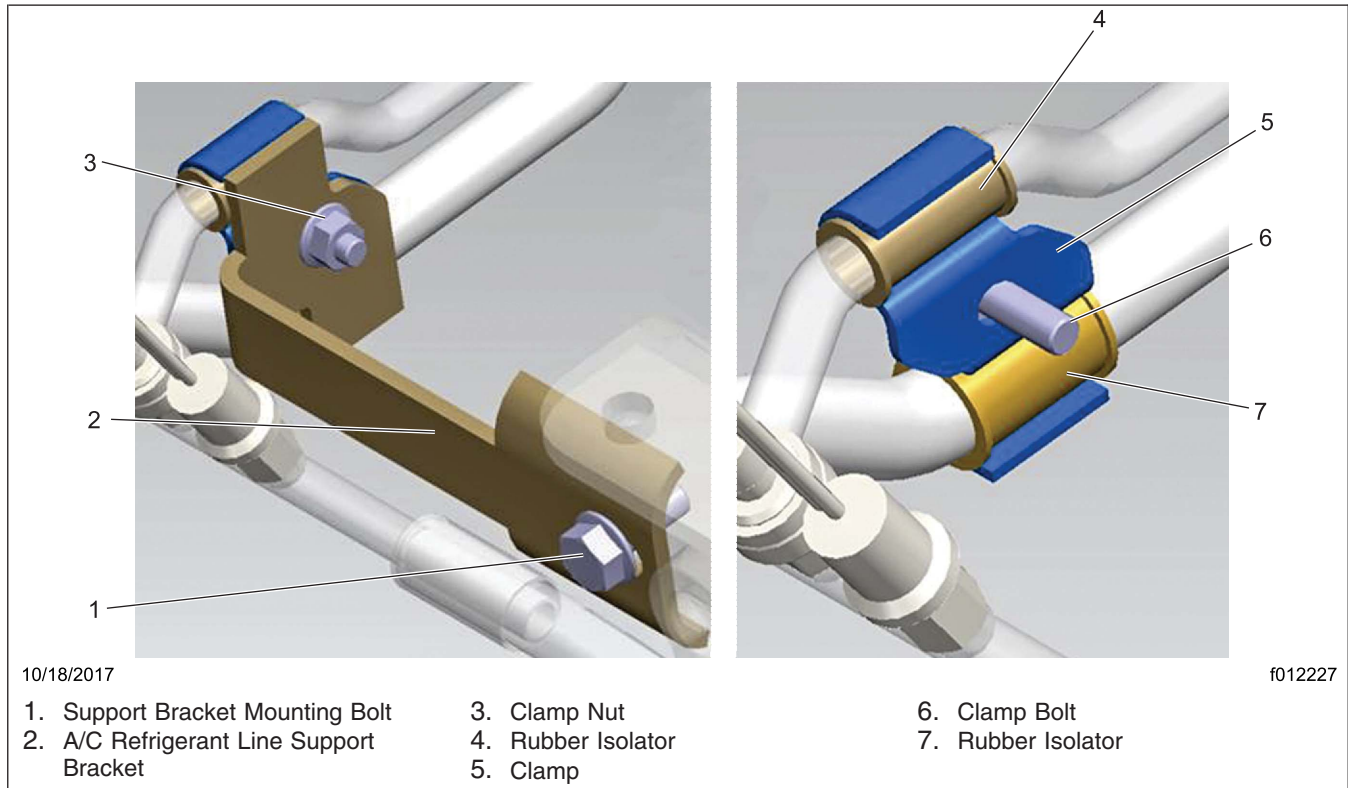

Fig. 1, A/C Refrigerant Line Clamp
7. Remove the A/C refrigerant line clamp bolt and nut. Retain the bracket, rubber isolators, bolt and nut. See Fig. 1.